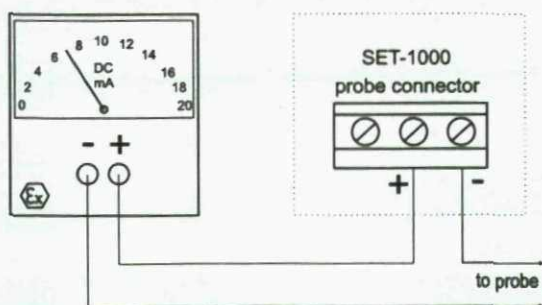

Figure 8. Probe current measurement
- 3.3 Connect mA-meter as in figure 8.